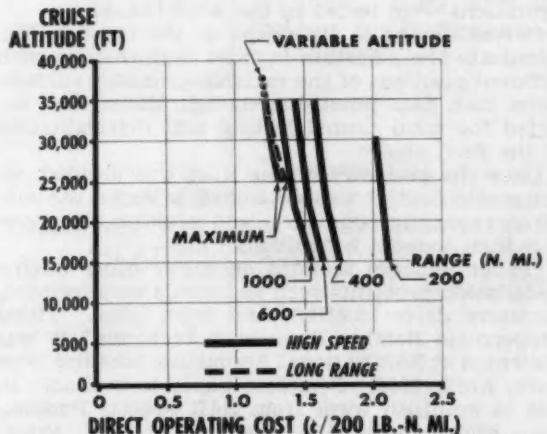

Fig. 5—Effect of altitude on direct operating cost for DC-8.
**Direct Operating Costs**—In Fig. 5 altitude is shown to have a relatively small effect on direct operating costs. These costs (calculated from the 1955 ATA cost equations) are based on a domestic first-class interior. The increased block speeds at lower altitudes tend to counteract the additional fuel cost that comes with the increased fuel consumption of lower-altitude operation. The shorter the range, the less the increase in cost resulting from reducing the cruising altitude. At 400 nautical miles range, the cost is increased only 7% by flying at 20,000 ft instead of 35,000 ft, while speeds are increased 2%. At ranges close to maximum, altitude affects operating cost to a larger extent. But even when the altitude is reduced from the optimum to 30,000 ft, the effect on cost is only 5% with high-speed operation. This assumes, of course, that full payload can be carried at all altitudes. If the payload must be reduced to fly the range at the reduced altitude, then the effects on costs are very large. An additional penalty of about 2% is incurred even if full payload is carried when long-range operation must be used at the low altitudes.